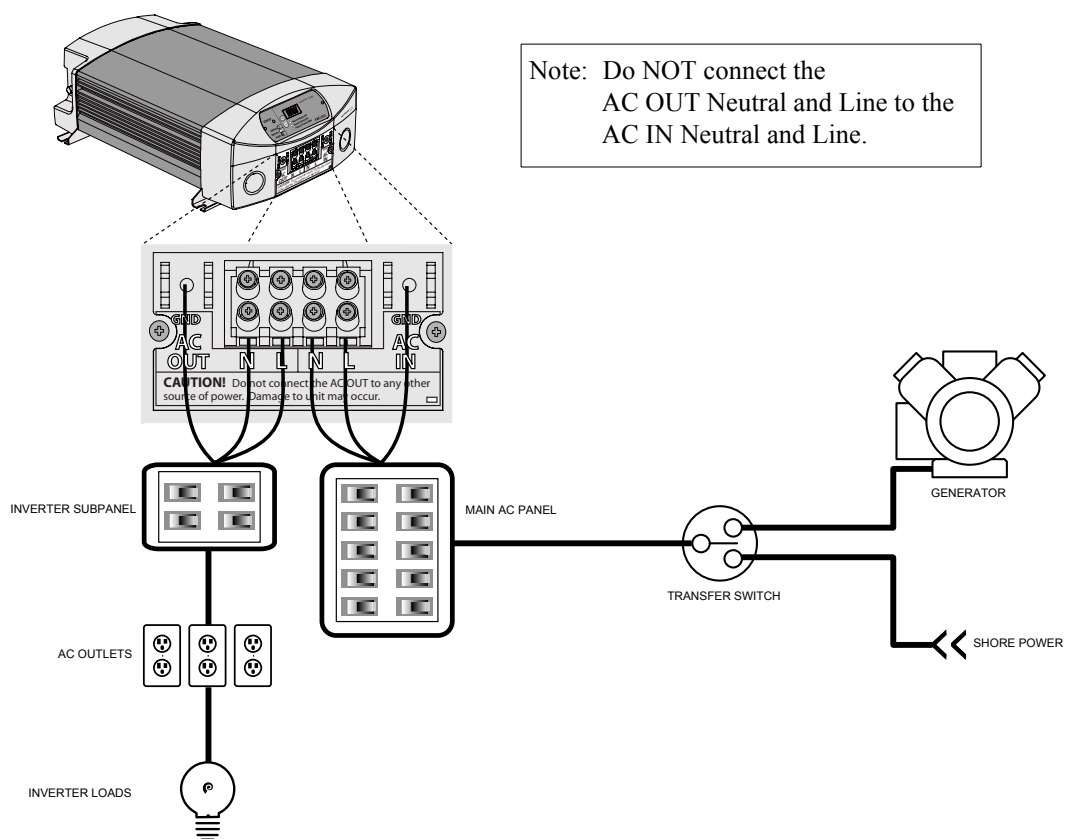
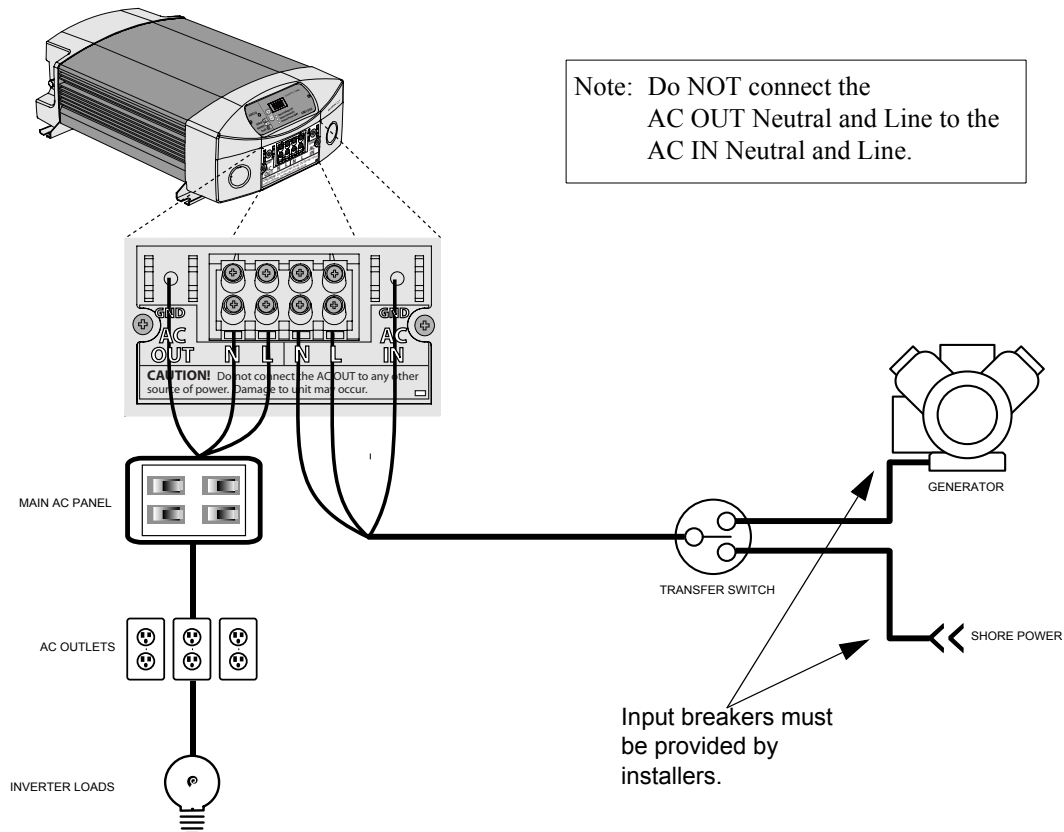

Figure 3-6 AC Wiring Diagram with an Inverter Subpanel
Figure 3-7 AC Wiring Diagram without an Inverter Subpanel
1. Install the required circuit breaker in the AC output panel supplying the unit (See Figure 3-6 on page 3–20).
1. Install the required circuit breaker in the AC load panel (see Figure 3-6 on page 3-20 and Figure 3-7 on page 3-21).